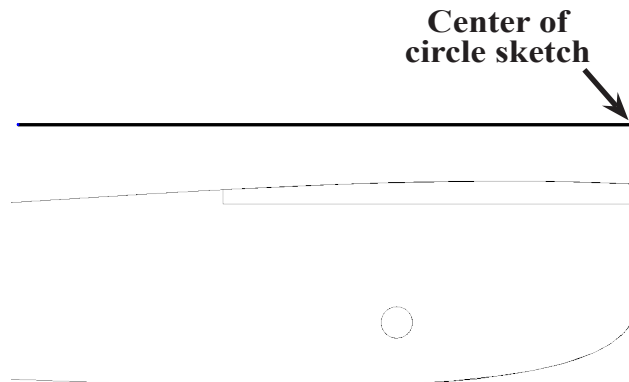

Fig. 33
Step 7. Draw horizontal line and vertical line from the center point of the circle in the Cartridge Hole sketch, **Fig. 33**. Move the pointer (cursor) along the circle sketch and when pointer indicates a  that's the center. Draw a horizontal line out towards the front of body and a vertical line down. To restart the line, right click and select End Chain from menu. Use the inferencing line, the dotted line that appears when you draw the lines.